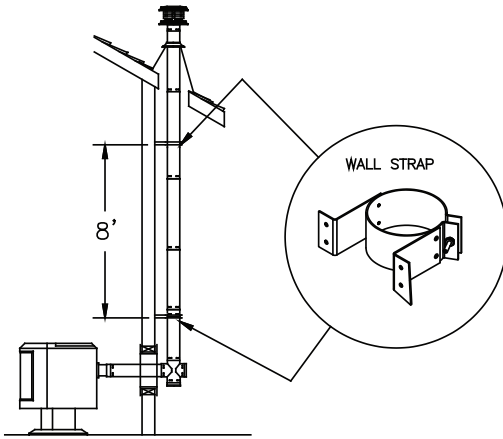
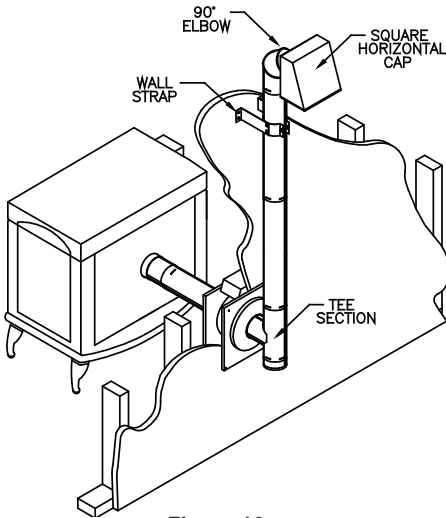

Figure 15
Figure 16
D. Attach Wall Strap just above the tee. Wall Straps must be placed every 8-feet along an exterior vertical run (**Figure 15**). If your exterior vertical run terminates horizontally before penetrating the roofline, install at least one Wall Strap on the Pipe Section before 90 Degree Elbow and Horizontal Cap (**Figure 16**).